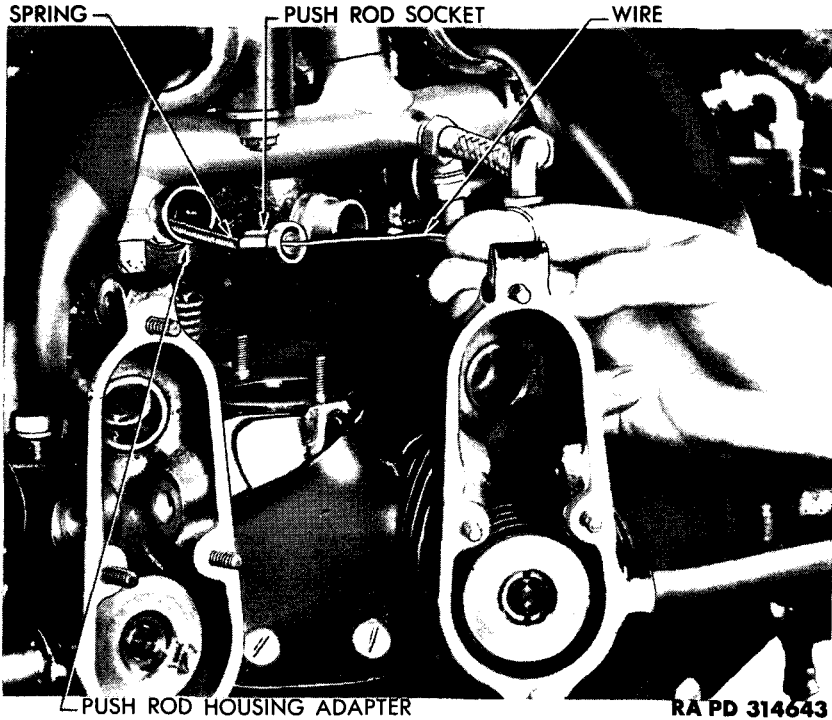

Figure 49 – Removing Push Rod Socket and Spring
i. Remove Push Rod Sockets and Springs. Reach into the crankcase opening with a piece of wire. Insert end of wire through hole in push rod socket and spring, and pull them both out (fig. 49). Remove socket and spring for each push rod in same way.